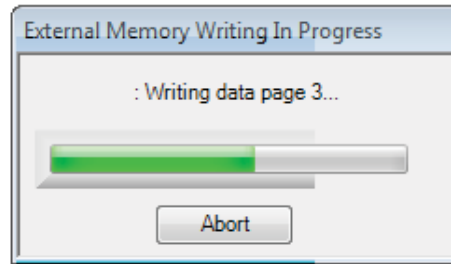

Figure 73. External Memory Write Operation Status Window
10. SigmaStudio begins the EEPROM write operation. This operation can take several minutes to complete. Users can view the progress o the write operation with the status window shown in Figure 73. When the window disappears, the operation is complete.